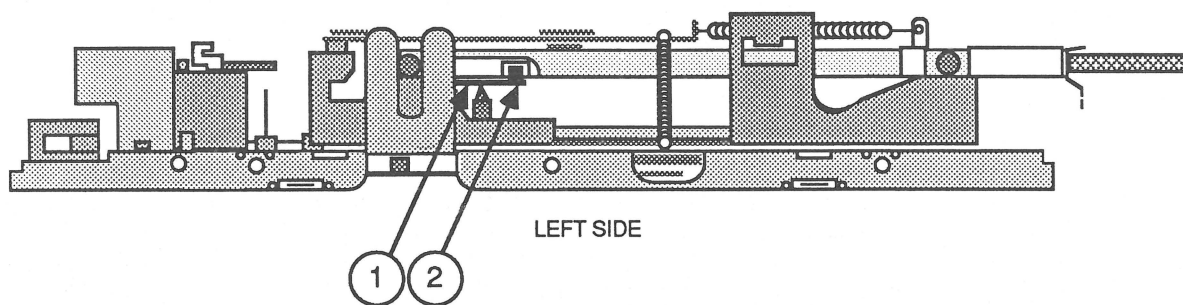

FIGURE 2
IPL.5	Macintosh 800K External Disk Drive (Figure 2)
6. Locate the small arm with a cylindrical cog at its end. This arm is located near the left-to-right center of the drive mechanism (see Figure 2, #1). This cog will be caught in the half-moon depression of the diskette case.
7. Insert a small screwdriver at the position shown in Figure 2, #2 and **gently** move the arm away from the diskette until the diskette pops forward slightly. Remove the diskette from the disk drive.